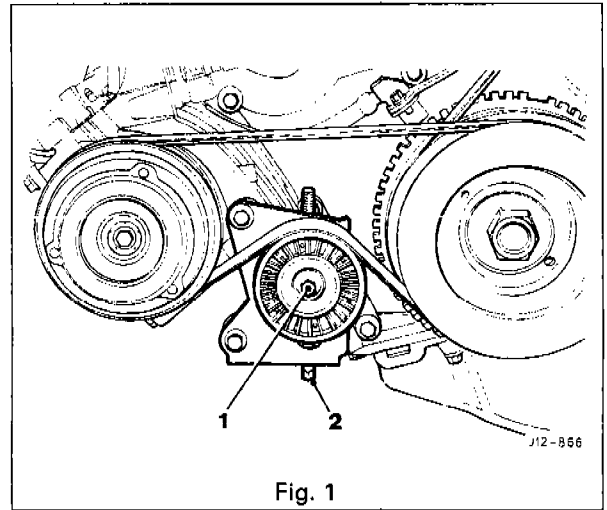

Fig. 1
- Slacken the compressor tensioner pulley adjusting bolt (2 Fig. 1) (clockwise, looking on the bolt head) to release the belt tension.